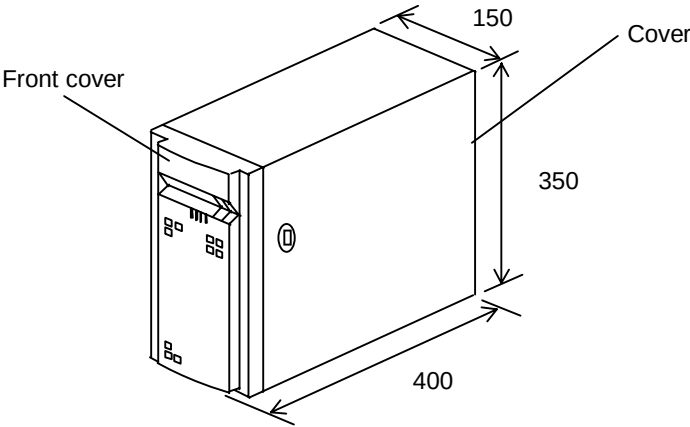

Figure 1.1.1 Appearance
Figure 1.1.1 shows appearance of the DF350 disk subsystems. (Desktop (DK) type)